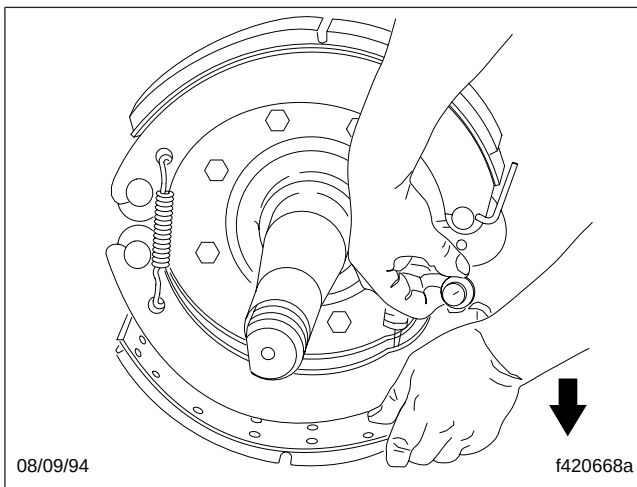

Fig. 2, Cam Roller Removal
- 8.1 Push down on the lower brake shoe, then pull on the roller retaining clip to remove the lower cam roller. See Fig. 2.